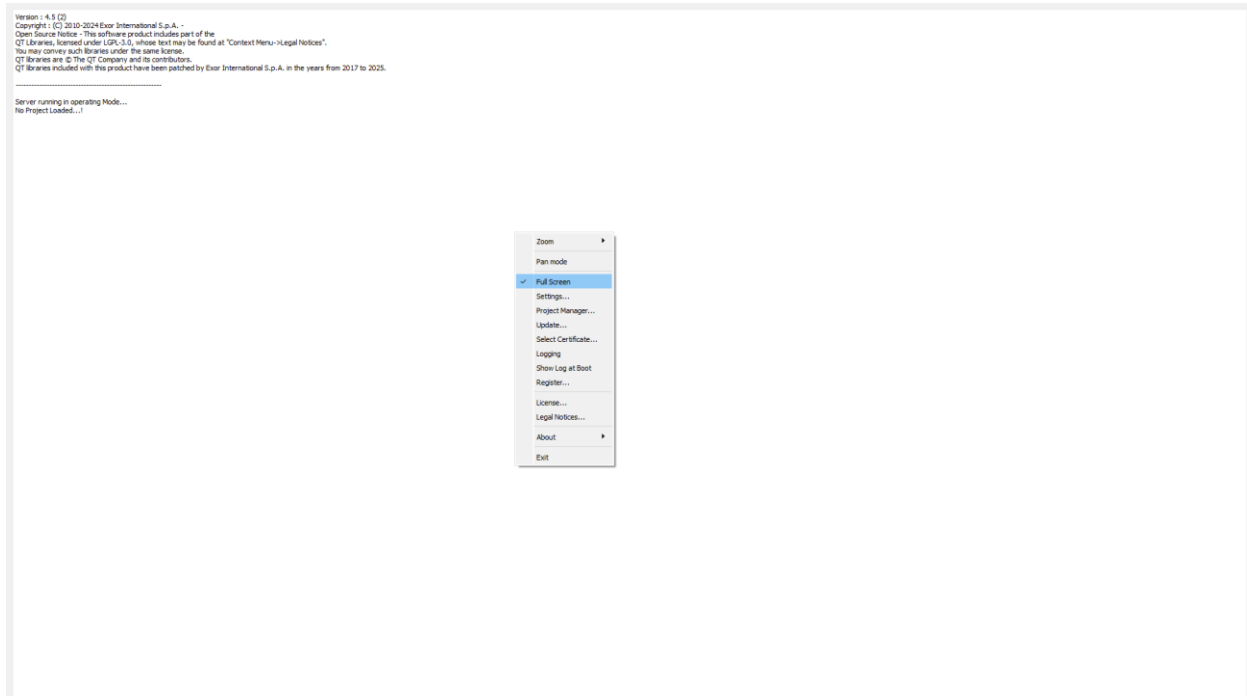

Figure 8 - Launching JMobile Runtime
2. The application opens in **Full Screen** mode by default. Right-click anywhere in the application window and clear the **Full Screen** option, as shown in Figure 8. This enables the standard window resizing controls.